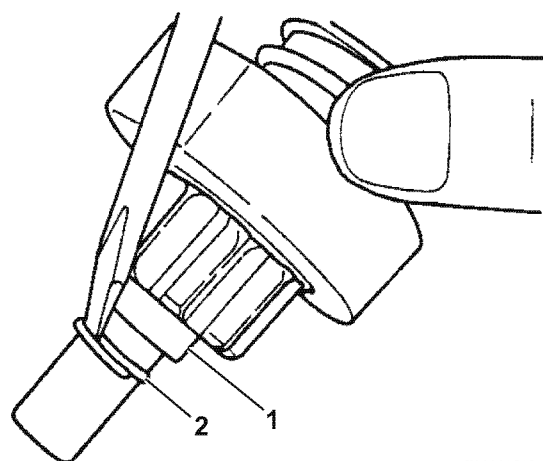

Figure 10-9
12. Pull the pinion stop (Figure 10-9, (1)) down to expose the retaining ring. Using a flat-blade screwdriver, remove the retaining ring (Figure 10-9, (2)) from the pinion shaft.